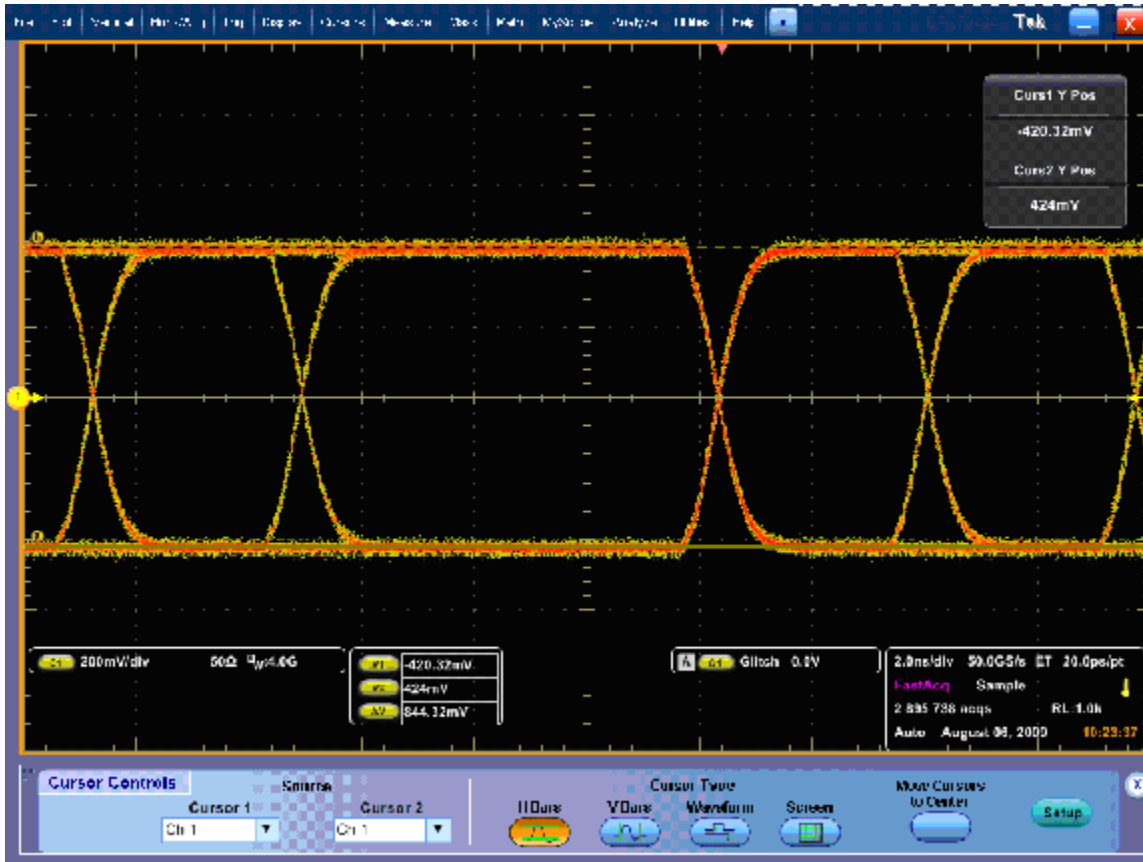

Figure 1: Serial Output at 270 Mb/s, using Glitch Trigger mode.
- Connect a second cable from the Slot 1 SDI A Out to CH 1 of the test oscilloscope. A waveform similar to that of figure 1 should be observed on the test oscilloscope.